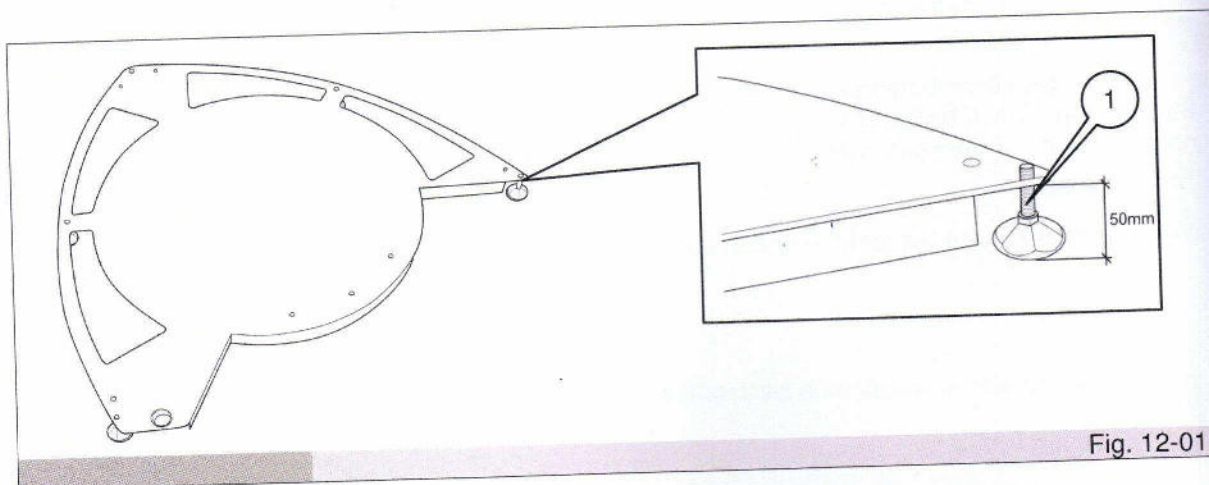

Fig. 12-01
- Remove all the appliance's components from their packaging and then position the base at the point where the appliance is to be installed. Adjust the support feet (ref. 1 fig. 12-01), taking into account that the optimal distance between the floor and the wall's support surface is 50 mm. Place the mat under the base.